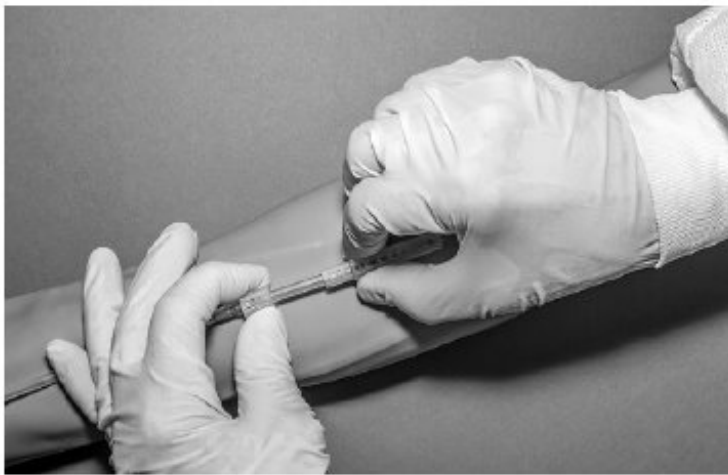

Figure 3
18. **Withdrawal of Needle** (see Figure 3).